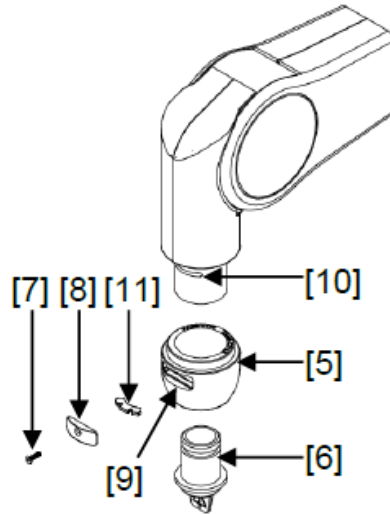

Figure 12: Removing the Nose Cone and Safety Plug
5. Rotate the nose cone 180° so that the slot in the nose cone [9] lines up with the slot in the stem [10]. The locking key should be exposed (refer to Figure 12).